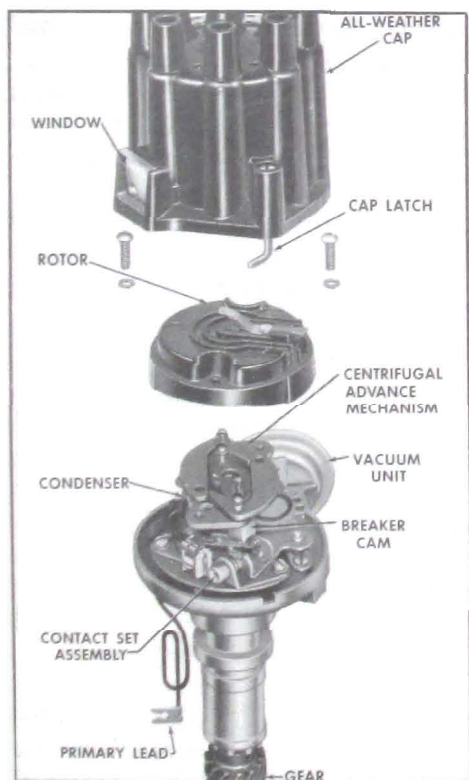

Figure 10-37—Distributor and Cap Assembly
(4) Ignition Distributor. The ignition distributor is of the external adjustment type. See Figure 10-37. It is driven clockwise directly from the camshaft through cast iron gears which are automatically lubricated by the engine oiling system. Contact point opening is adjusted through a window in the distributor cap while the engine is idling. Any accurate dwell meter may be used. See paragraph 10-34 for adjustment procedure.
5. Install distributor cap. Make sure that spark plug wires are correctly installed in distributor cap, through clips on rocker arm covers, and on spark plugs. See Figures 10-37 or 38.